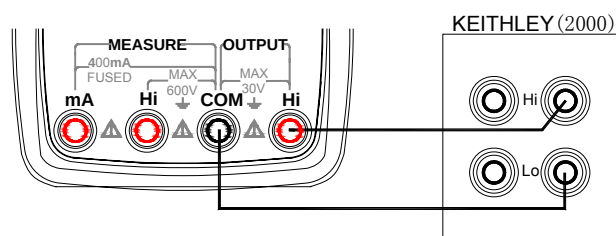

Figure 14. Output Voltage Calibration
1. The calibration wiring diagram is shown in Figure 14.